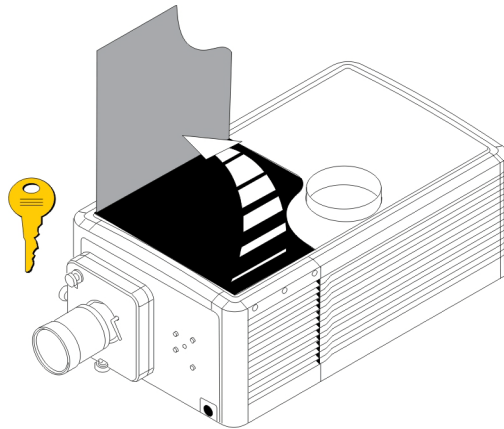

**Figure 6 Fill the Reservoir**
1. Loosen the top screw (**Figure 6**) and use the fill bottle to add coolant. Power up the projector and continue adding coolant so the fluid level does not drop below the *Minimum Fill Line*.